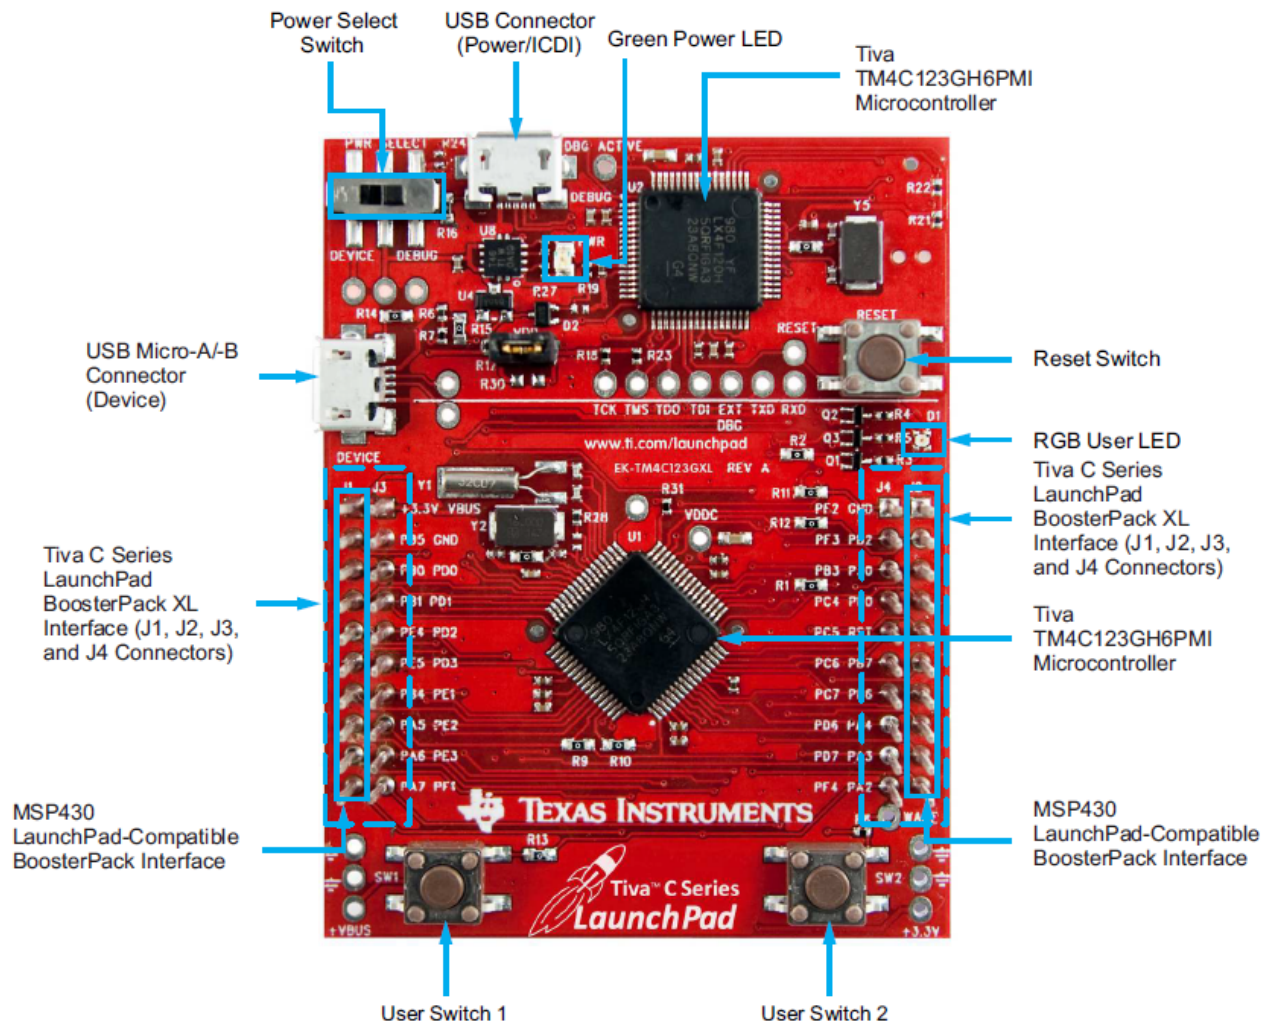

Figure 1.2: Launchpad Board
The key component used in the tutorials is the Tiva C Series TM4C123G (Stellaris) Launchpad board produced by Texas Instruments (TI). The board, illustrated in Figure 1.2, includes a user configurable TM4C123GH6PM micro-controller with 256 KB flash and 32 KB RAM as
In Figure 1.2, there is a horizontal white line slightly above the the midpoint. Below the line are the TM4C123GH6PM, crystal oscillators, user accessible RGB LED, user accessible push-buttons and a reset push button. Above the line is the hardware debugger interface including a 3.3V voltage regulator and other components. The regulator converts the 5V supplied by the USB connection to 3.3V for the processors and also available at the board edge connectors.